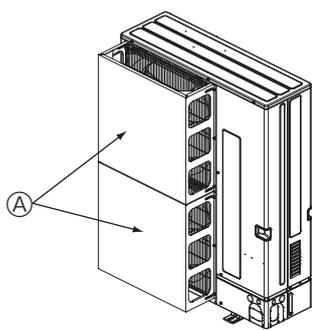

Fig. 2-16
- 1 Install an optional air protect guide if the unit is installed in a location where strong winds from a typhoon, etc. may directly enter the air outlet. (Fig. 2-16)